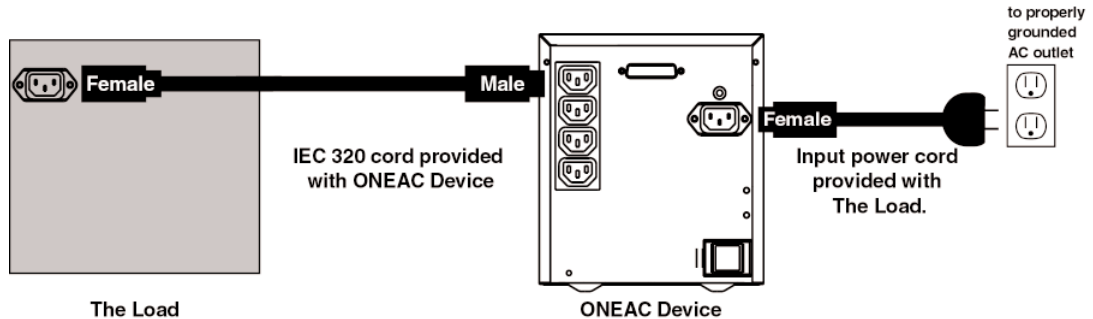

Figure 4. Connecting the ONEAC Device to the AC utility power source
Step 3: Using the input power cord supplied with The Load, connect the ONEAC Device to the AC utility power source. See figure 4.